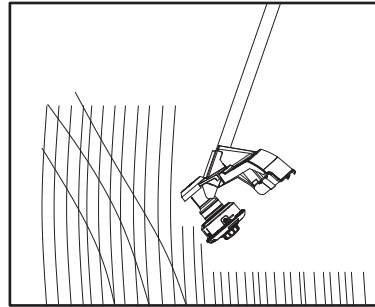

**Fig. 34**
5. Move the product with a slow regular arc from left to right before moving it back to the starting position before trimming the next area (Fig. 34).